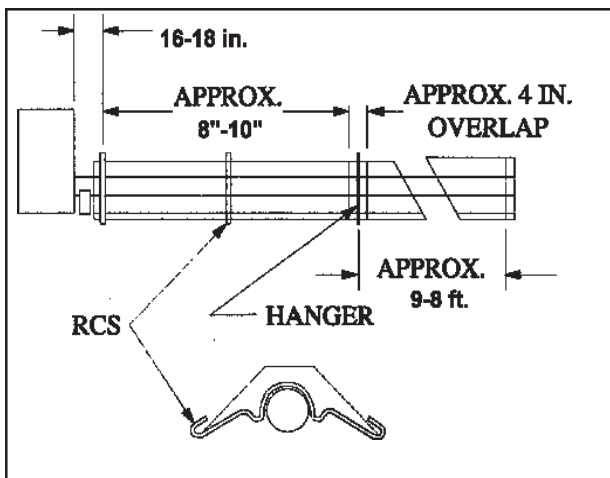
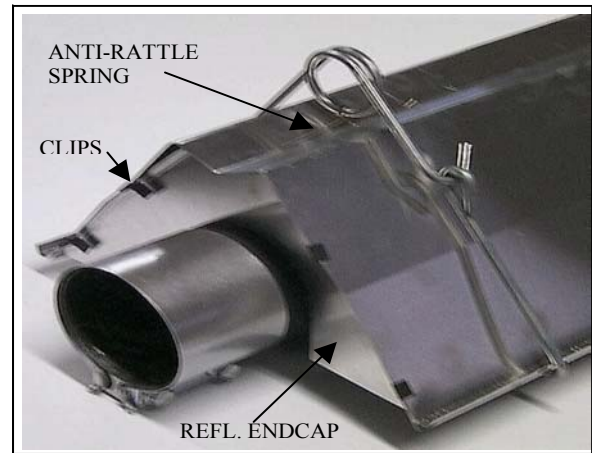

Figure 2-12
Figure 2-13
1. Install reflector center supports (RCS) as shown in Figure 2-12.
2. Slide reflector through wire hangers and adjust the reflector positioning spring in the V-groove on top of the reflector as shown in Figure 2-13. Overlap reflectors 4 in. for support (See Figure 2-12).
4. Install reflector end caps at exposed ends of the reflector runs with clips (Figure 2-13).